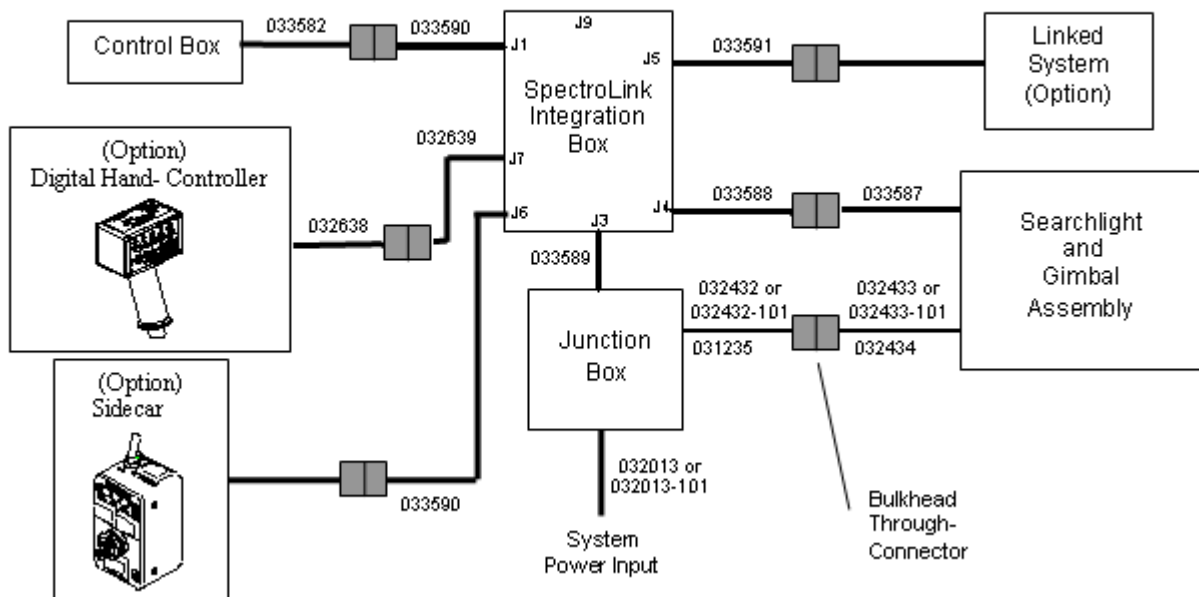

Figure 13. Main Components, Cables, and Connectors with SX-16 Nightsun®
Figure 13 depicts connections between SpectroLink components that are attached to an SX-16 Nightsun®. The figure below identifies each component and the connectors to each component and the cables attached to the connectors (identified by part number).
- Spectrolab cable part numbers normally appear in one of two ways: (1) xxxxxx-xx or (2) xxxxxx-101-xx.
- In Figure 13, however, cable lengths (the two-digit suffix) are not supplied; consequently, the suffix 101 indicates that the cable terminates in a 90° angle connector instead of a straight one.